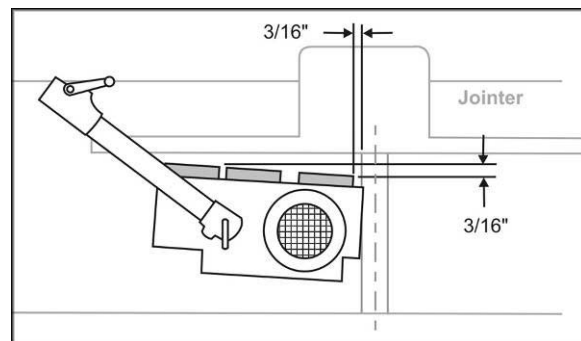

Figure 19
1. Mount the stock feeder on a jointer so that all rollers are over the outfeed table, as shown in Figure 19.
2. The infeed roller should be approximately  $3/16''$  away from the lip of the outfeed table at the cutter area. See Figure 19.
3. Rotate the Stock Feeder so that the direction of feed is angled slightly toward the fence by approximately  $3/16''$  (5mm); that is, the outfeed roller should be slightly closer to the fence than the infeed roller. See Figure 19.